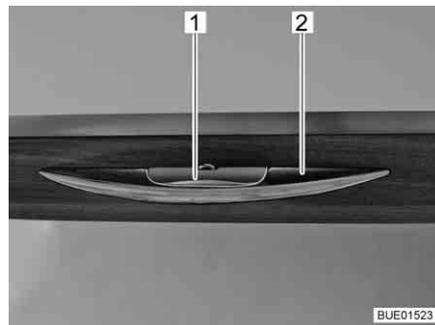
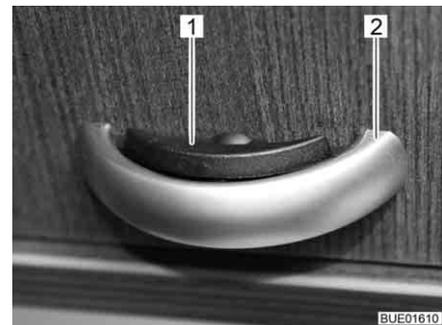

Fig. 71 Handle with unlocking bar
Fig. 72 Handle with unlocking bar (alternative)
- Press the unlocking bar (Fig. 71,1 or Fig. 72,1) and hold it.
- Pull the handle (Fig. 71,2 or Fig. 72,2) until the furniture flap is open.